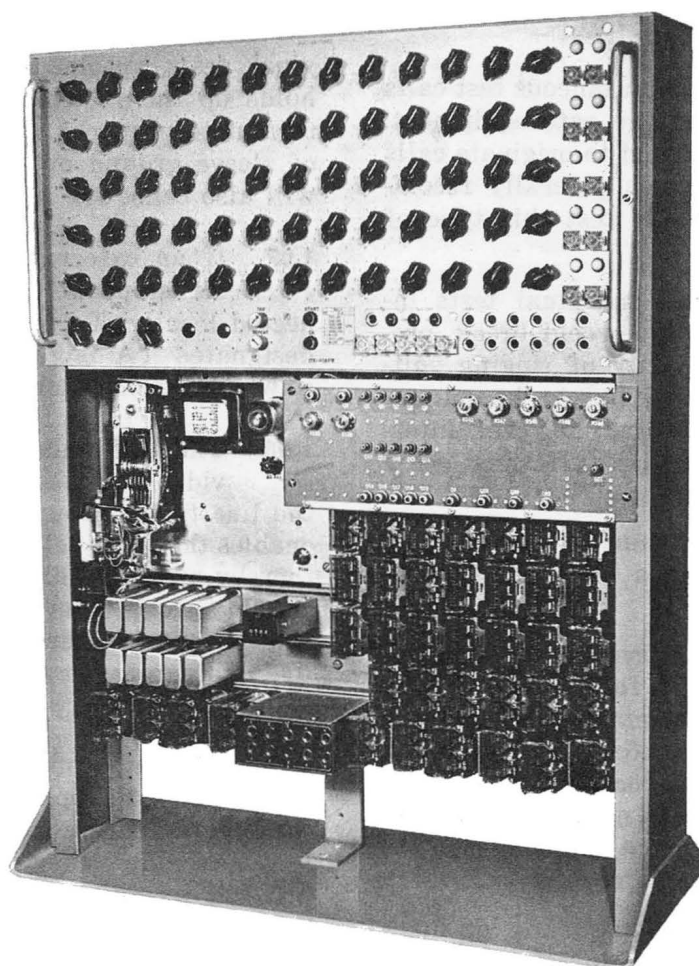

Fig. 1 – ITE 4557-T Test Set
1.12 Mounted on the bottom mounting strip are the following (see Fig. 1):